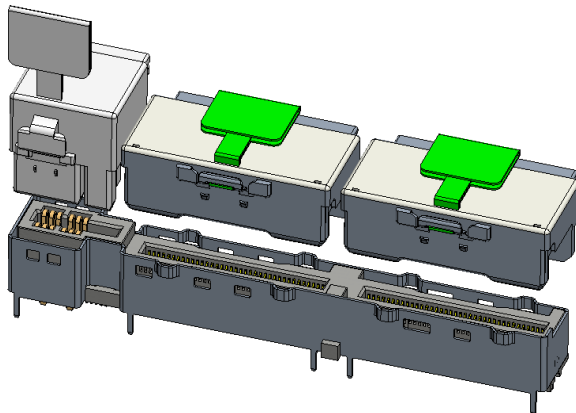
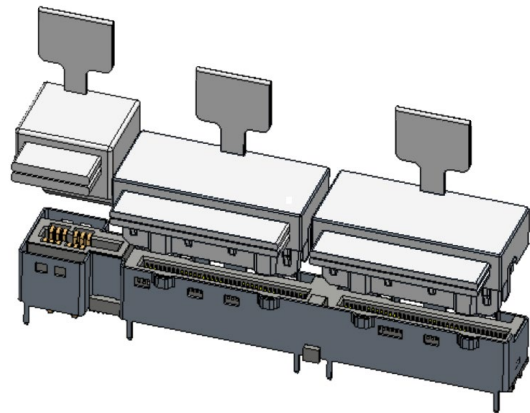

Figure 4-5 Separate RA 74 Pin Cables and a RA 21A Power Cable Application
Figure 4-6 Separate RRA 74 Pin Cables and a RRA 21A Power Cable Application
3. Separate individual cables can plug into the Vertical Combo DE x16+21A Power connector where there are two cables with 74-pin plugs and a 21A Power cable used as shown in Figure 4-5 or Figure 4-6. In this third case, the Straight Plug with no side flanges for 74 Contacts listed in SFF-TA-1016, the equivalent Right Angle Plug (with no side flanges), or a Reverse Right Angle Plug (with no side flanges) can mate with these receptacle connectors. The standard SFF-TA-1016 Straight Plug for 74 Contacts or the Right Angle Plug for 74 Contacts that include the side flanges will not fit. For this same reason, the SFF-TA-1016 Straight Plug for 148 Contacts or the Right Angle Plug for 148 Contacts will not fit.